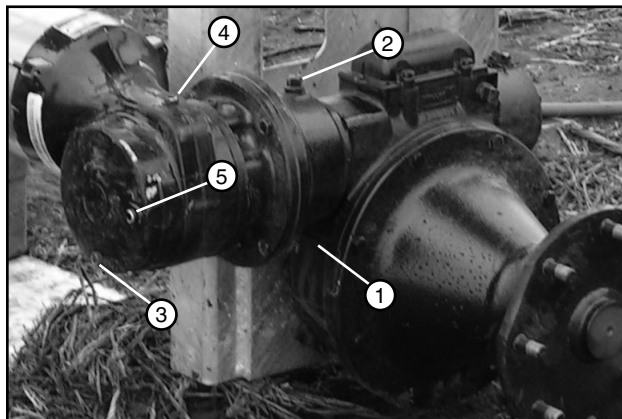

Figure 30-2 1. Drain Plug Bell Housing 4. Fill Plug Gear Motor
4. Remove fill plug and oil level plug from gear motor. See Figure 30-2.
5. Remove fill plug from bell housing. See Figure 30-2.